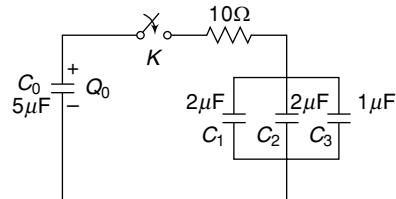

Fig. 1.45 Circuit of Ex. 1.37
1.37 A $5\ \mu F$ capacitor is initially charged with $500\ \mu C$. At $t = 0$, the switch K is closed (Fig. 1.45). Determine the voltage drop across the resistor at $t < T$ and $t = \infty$.